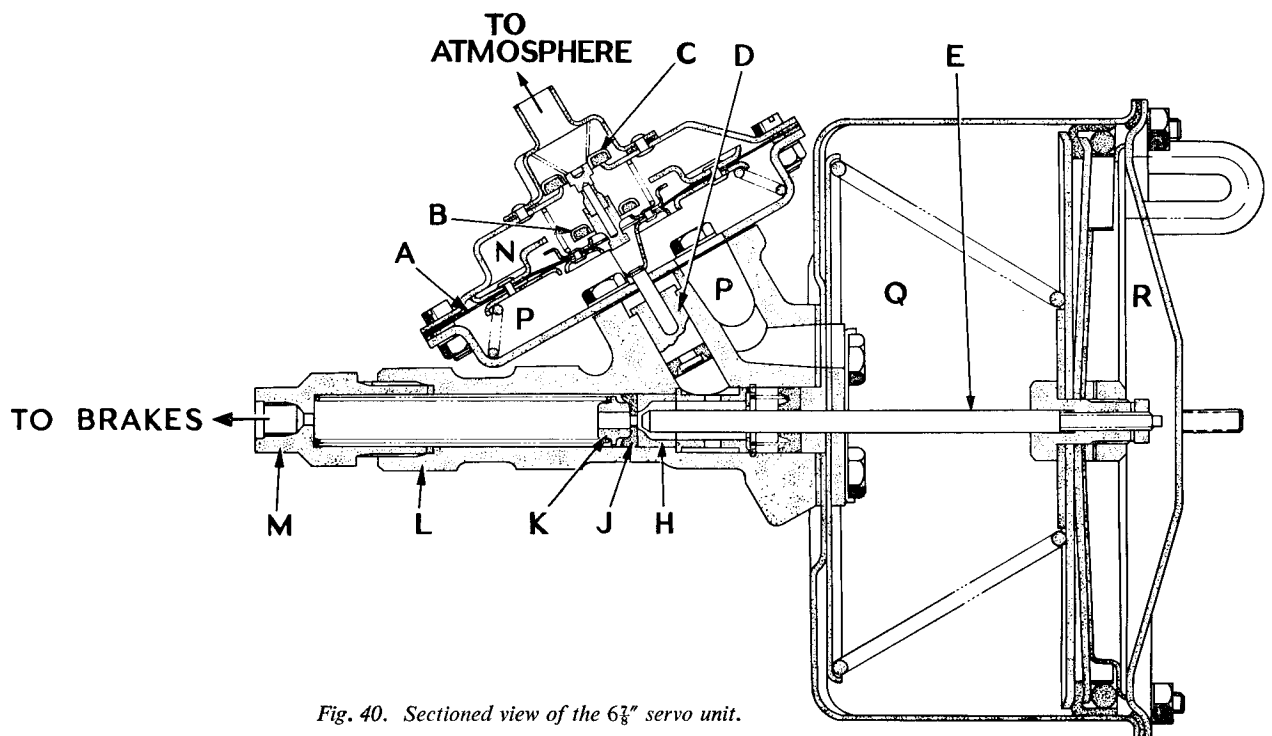

Fig. 40. Sectioned view of the 6⁷/₈" servo unit.
the servo unit is fitted with an adjustable type of push rod and a similar slave cylinder arrangement to that incorporated in the 6¾" servo unit and which is illustrated in Fig. 40.
When assembling this type of servo unit it is important to ensure that .060" to .070" (1.5 to 1.8 mm.) clearance exists between the end of the push-rod and the piston (H, Fig. 40).
When the servo is at rest, the valve piston (D, Fig. 40) and the diaphragm (A) are in the normal position ; valve (B) is open and valve (C) is closed, the valves being maintained in position by a tapered spring.